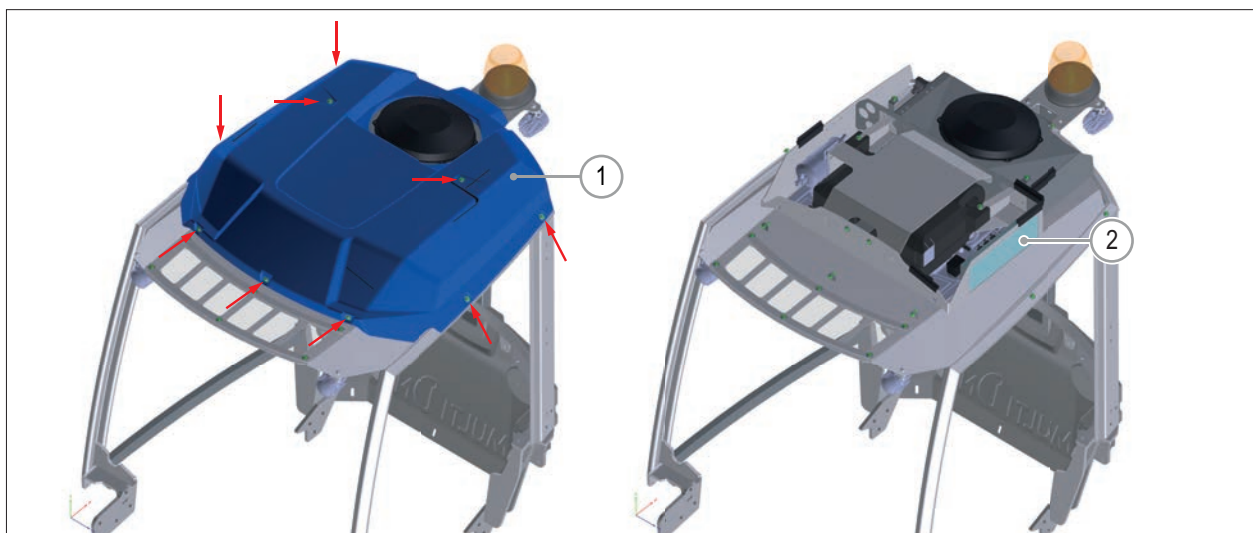

FIG. 54
- 2) Remove the top panel (FIG. 54 - Rif. 1), by loosening the screws that secure it to the frame.
- 3) Remove the air filter (FIG. 54 - Rif. 2) by pulling the top side.